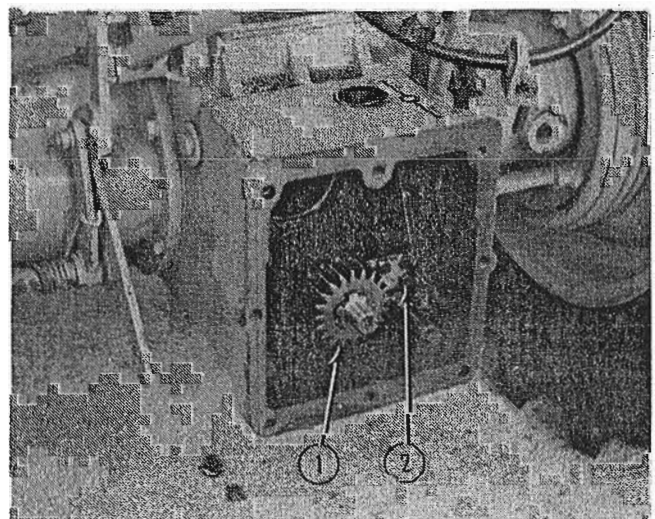

FIG. 6
The ground drive PTO shifter gear (1, Fig. 6) may be replaced by removing the (3) 6 mm. bolts (2, Fig. 6) that secure the shifting fork to the carrier.